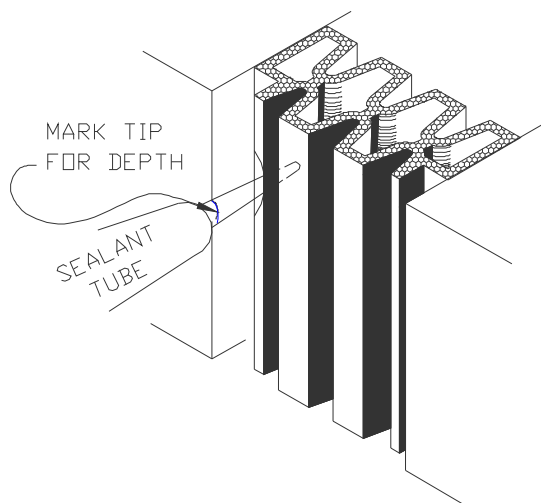
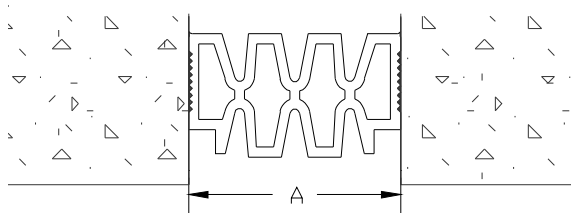

Figure 5
Figure 6
**STEP 5.** Insert the tip of the Silicone Sealant tube between the Silicone Compression Seal and the Substrate about to the midpoint of the seal thickness, see Figure 5. Apply a continuous bead of Silicone Sealant along the Seal. A mark can be placed on the nozzle of the tube to help maintain a constant depth. Repeat this procedure along the opposite side of the Seal, see Figure 6. Ensure that the Seal remains straight, properly aligned, and at the proper depth within the joint.